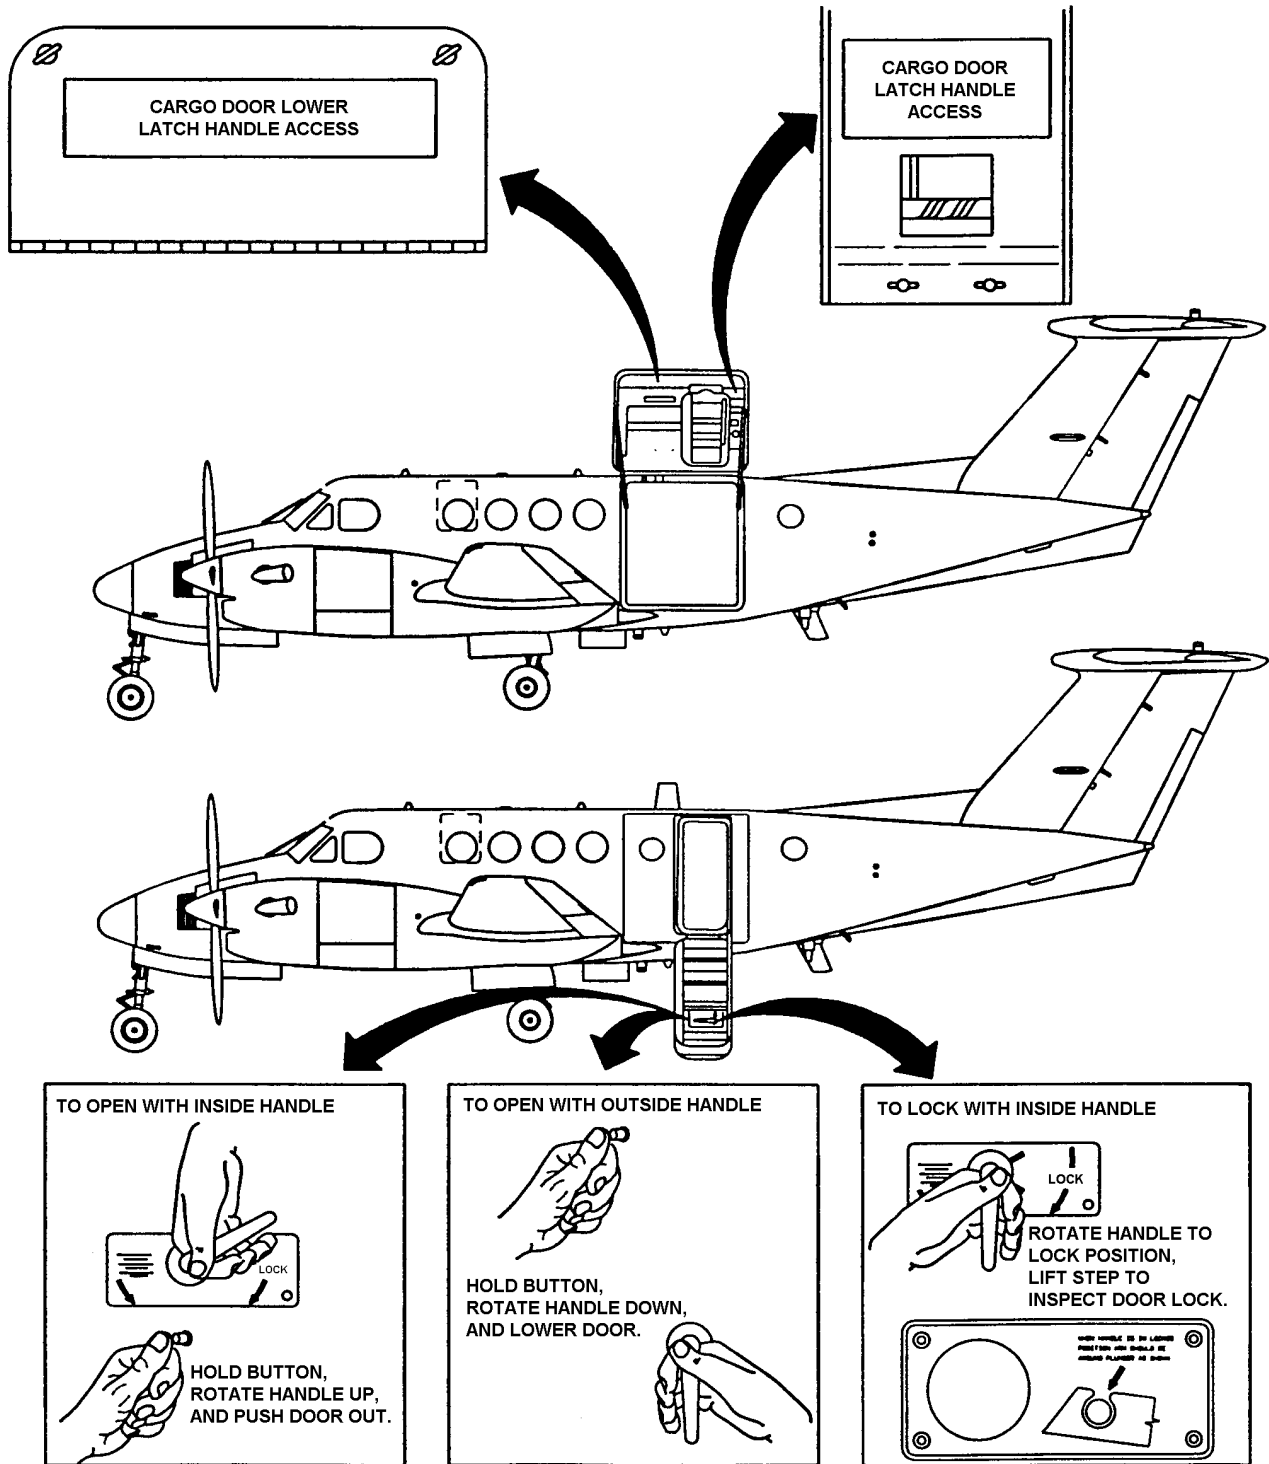

Figure 2-8. Cabin and Cargo Doors
An airstair cabin door, hinged at the bottom, provides a stairway, for normal and emergency entrance and exit. Refer to Figure 2-8. In the closed position, the door becomes an integral part of the cargo door. The cabin door is provided with steps, two of which fold flat against the door in the closed position. A step folds down over the doorsill when the door opens to provide a platform (step) for door seal protection. **T3 F3** A plastic-encased cable provides a handhold and support for the door in the open position and a convenience for closing the door from inside. **R** Two plastic-encased cables provide a handhold and support for the door in the open position and a convenience for closing the door from inside. A hydraulic damper permits the door to lower gradually during opening. A rubber seal around the door seals the pressure vessel while the aircraft is in flight. The door locking mechanism is by either of the two mechanically interconnected handles, one inside and the other outside the door. When either handle is rotated, three rotating cam-type latches on either side of the door capture posts mounted on the cargo door. A button adjacent to the door handle must be pressed before the handle can be rotated to open the door. A bellows behind the button is inflated when the aircraft is pressurized to prevent accidental unlatching and/or opening of the door. A placard adjacent to the window instructs the operator that the safety lock arm is in position around the bellows shaft that indicates a properly locked door. Pushing the red button adjacent to the window will illuminate the inside door mechanism. **T3 F3** A **DOOR UNLOCKED** annunciator on the caution/advisory panel will illuminate if the door is not closed and all latches fully locked. **R** A **DOOR UNLOCKED** warning light on the caution/advisory panel will illuminate if the door is not closed and all latches fully locked. The cabin door opening is 21.5 inches wide by 46.0 inches high.
b. Cargo Door. A swing-up cargo door, hinged at the top, provides access for loading cargo or bulky items. Refer to Figure 2-8. The cargo door opening is 52.0 inches wide by 52.0 inches high. After initial opening force is applied, gas springs will completely open the cargo door automatically. The door is counter-balanced and will remain in the open position. A door support rod is used to hold the door in the open position, and to aid in overcoming the pressure of the gas spring assemblies when closing the door. Once closed, the gas springs apply a closing force to assist in latching the door. A rubber seal around the door seals the pressure vessel while in flight. The door locking mechanism is operated only from inside the aircraft, and is operated by two handles, one in the bottom forward portion of the door and the other in the upper aft portion of the door. When the upper aft handle is operated per placard instructions, cam-type latches (two on the forward side of the door and two on the aft side) rotate, capturing posts mounted on the fuselage side of the door opening. The bottom handle, when operated per placard instructions, actuates four pin-lug latches across the bottom of the door. A button on the upper aft handle must be pressed before the handle can be released to open or latch the door. A latching lever on the bottom handle must be lifted to release the handle before the lower latches can be opened. These act as additional aids in preventing accidental opening or unlatching of the door. The cabin and cargo doors are equipped with dual sensing circuits to provide the crew with remote indication of cabin/cargo door security. An annunciator, placarded **DOOR UNLOCKED**, will illuminate if the cabin or cargo door is open and the battery switch is on. If the battery switch is off, the annunciator will illuminate only if the cabin/cargo door is not securely closed and latched. The cabin/cargo door sensing circuit receives power from the hot battery bus.